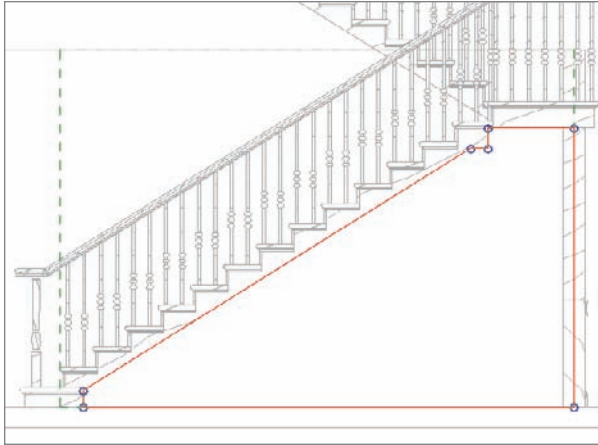

FIGURE 16.14 Cleaning up the lines so they form a continuous loop
8. Delete the existing top magenta line and the existing left magenta line by selecting them and pressing the Delete key. All you should have left is the profile shown in Figure 16.14.
9. Use the Trim/Extend Single Element command to clean up all the corners. Revit will not allow you to continue if you don't (see Figure 16.14).